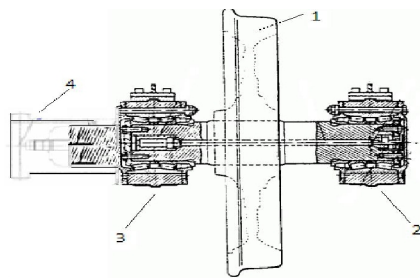

Fig. 4. a. *The monoblock elements of wheel sets: 1- Monoblock wheel set 2 - Locking system 3 - Buffer 4 - Outer bushes*
possible through a number two "sets" independent wheels that are coupled via a gear (gear / clutch) gear. Each set of wheels consists of single-wheel type (1), outer bearing (2) and the inner bearing (3) - Figure 4.